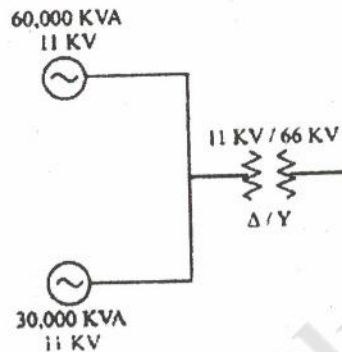

Fig. 4
13. (a) Two generators are connected in parallel to the low voltage side of a 3 phase delta star transformer as shown in figure 4. Generator 1 is rated 60,000 kVA, 11 kV. Generator 2 is rated 30,000 kVA, 11 kV. Each generator has a sub-transient reactance of $X_d'' = 25\%$. The transformer is rated 90,000 kVA at 11 kV- $\Delta/66$ kV-Y with a reactance of 10%. Before a fault occurred, the voltage on the high tension side of the transformer is 63 kV. The transformer is unloaded and there is no circulating current between the generators. Find the sub-transient current in each generator when a three phase fault occurs on the ht side of the transformer.